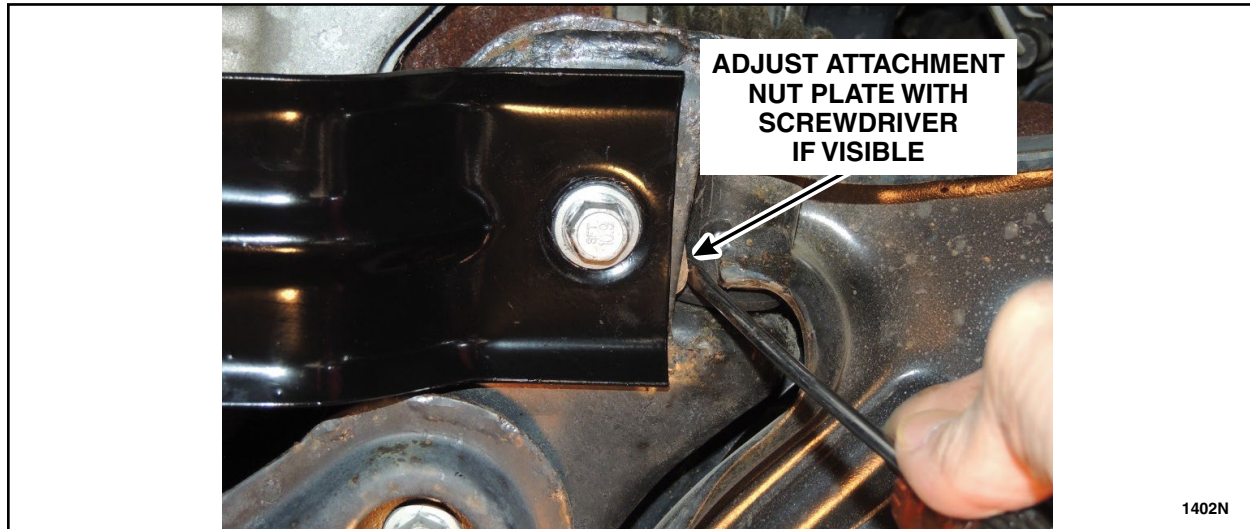

FIGURE 6
4. Check to ensure that no part of the nut plate is visible outside of the attachment location. If the nut plate is visible outside the attachment location, loosen the bolt and reposition the nut plate. After adjustment is complete, tighten the bolt to 103 Nm (75 lb-ft). See Figure 6.